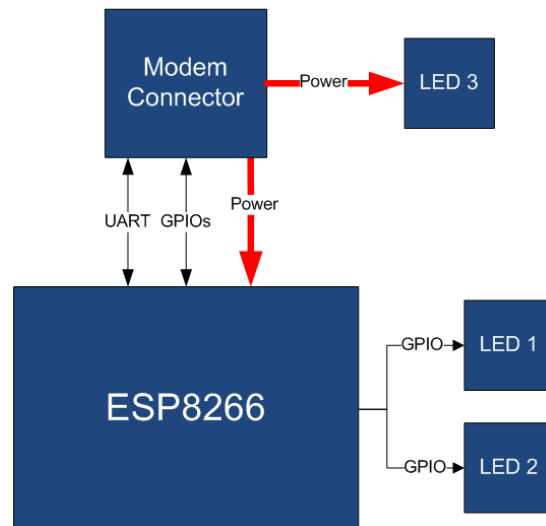

Figure 2 - Block Diagram
The MB210 is a WiFi Modem Board, able to add WiFi functionalities to a MS Base Board (BB). Figure 2 shows the MB210 block diagram. The heart of the system is an ESP8266 module, produced by Expressif Systems.